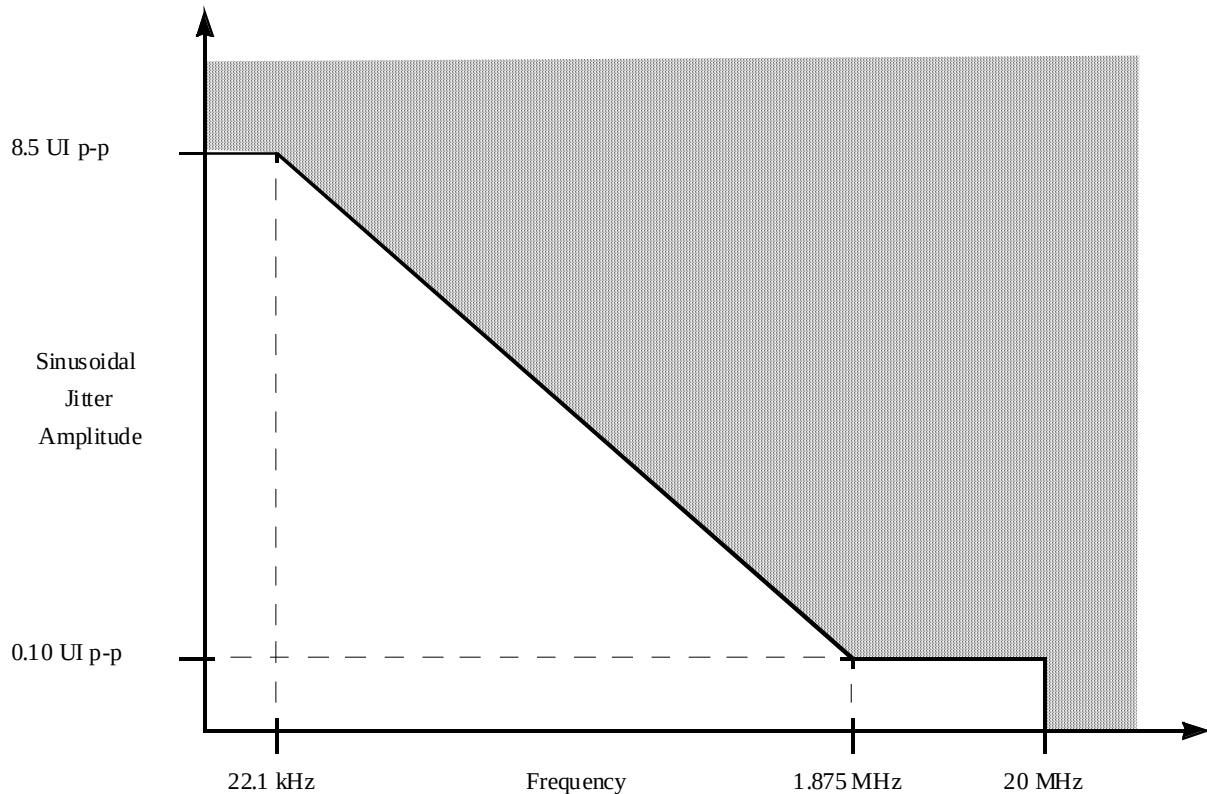

Figure 25. Single Frequency Sinusoidal Jitter Limits
- See Figure 25 for single frequency sinusoidal jitter limits.